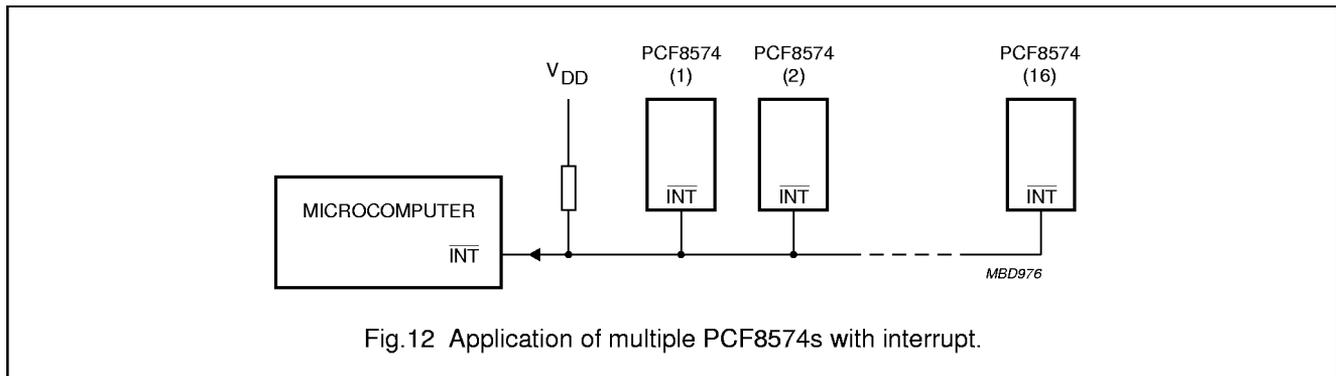

Fig. 12 Application of multiple PCF8574s with interrupt.
7.2 Interrupt (see Figs 12 and 13)